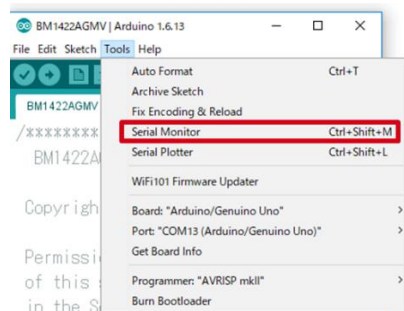

Figure 6. Tools Setting
- Select [Tools]->[Serial Monitor] (Figure 6)